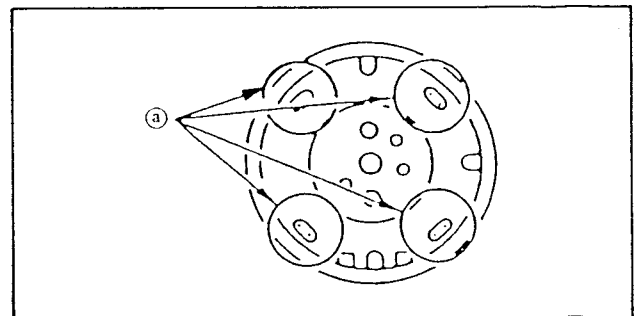

Fig. III-60
- * Parts (a) in the Fig.III-60 are plug-in type